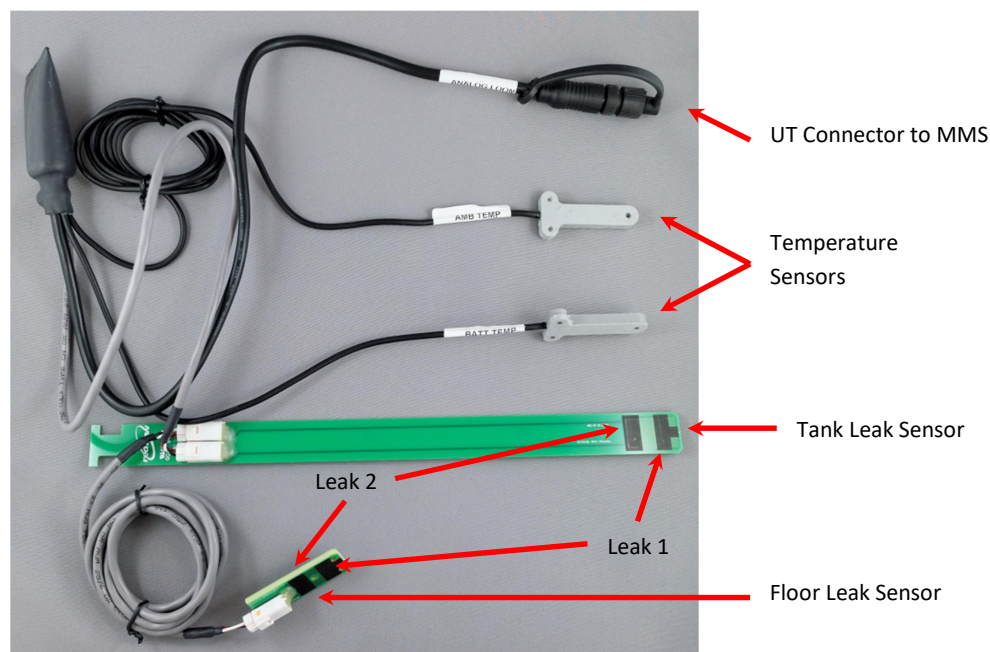

Figure 15: Sensor analog loom
The Analog Loom has 4 sensors: Tank Leak Sensor, Floor Leak Sensor, Air Temperature Sensor and Battery Temperature Sensor (see Figure 15). The Analog Loom 12-pin UT Connector connects to the Loom terminal on the base of MMS.
- The leak sensor utilises two level sensors: Leak 1 and Leak 2 (shown in Figure 15). Leak 1 signifies a lower level of electrolyte, and therefore a less significant leak than Leak 2. Leak 1 and Leak 2 are each electrically connected in parallel to the Leak 1 and Leak 2 readings of the floor leak sensor. Therefore, if a Leak 1 is detected, both the tank and floor leak sensors should be checked to determine where Leak 1 has been sensed.
- The leak sensor utilises two level sensors: Leak 1 and Leak 2 (shown in Figure 15). Leak 1 and Leak 2 are each electrically connected in parallel to the Leak 1 and Leak 2 readings of the tank leak sensor. Therefore, if a Leak 1 is detected, both the tank and floor leak sensors should be checked to determine where Leak 1 has been sensed.